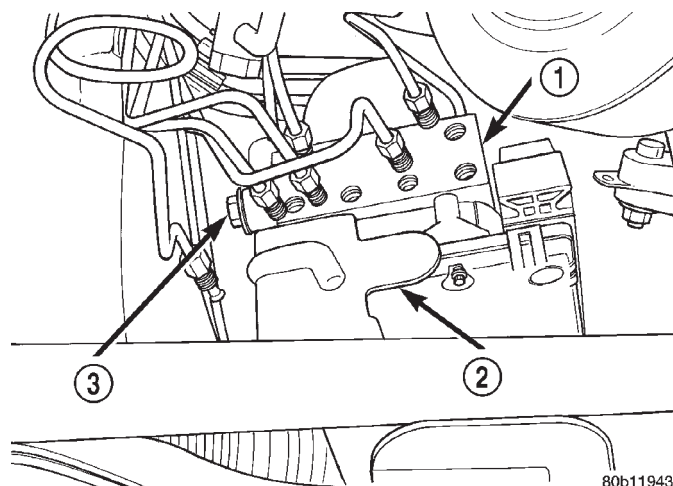

Fig. 33 HCU To Bracket Mounting Bolt
(13) Remove bolt (Fig. 33) attaching the side of the HCU to the mounting bracket.
(1) Install the ICU back in the vehicle and on its mounting bracket using the reverse order of its removal.
(2) Install isolators, washers and attaching bolts, mounting the ICU to its mounting bracket (Fig. 33) and (Fig. 34).